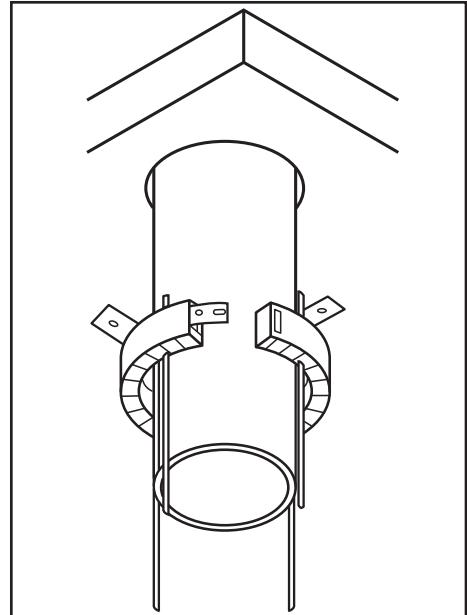

Figure 2: Open PPD and fit around pipe.
- Open the PPD and fit around the pipe (Figure 2).